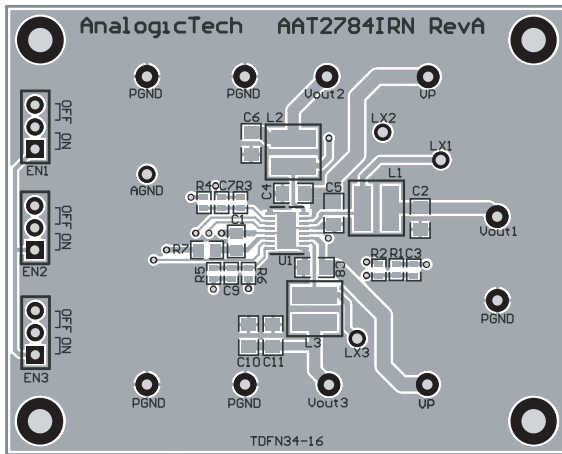

Figure 2: AAT2784 Evaluation Board Component Side Layout
The term $\frac{1}{2}$ appears in both the input voltage ripple and input capacitor RMS current equations and is a maximum when V_O is twice V_{IN} . This is why the input voltage ripple and the input capacitor RMS current ripple are a maximum at 50% duty cycle. The input capacitor provides a low impedance loop for the edges of pulsed current drawn by the AAT2784. Low ESR/ESL X7R and X5R ceramic capacitors are ideal for this function. To minimize stray inductance, the capacitor should be placed as closely as possible to the IC. This keeps the high frequency content of the input current localized, minimizing EMI and input voltage ripple. The proper placement of the input capacitor (C_1) can be seen in the evaluation board layout in the Layout section of this datasheet (see Figure 2). A laboratory test set-up typically consists of two long wires running from the bench power supply to the evaluation board input voltage pins. The inductance of these wires, along with the low-ESR ceramic input capacitor, can create a high Q network that may affect converter performance. This problem often becomes apparent in the form of excessive ringing in the output voltage during load transients. Errors in the loop phase and gain measurements can also result. Since the inductance of a short PCB trace feeding the input voltage is significantly lower than the power leads from the bench power supply, most applications do not exhibit this problem. In applications where the input power source lead inductance cannot be reduced to a level that does not
The suggested PCB layout for the AAT2784 is shown in Figures 2 and 3. The following guidelines should be used to help ensure a proper layout.
1. The power input capacitors (C5 and C8) should be connected as closely as possible to VP1_2, VP3 and PGND1,2,3 as shown in Figure 2. Due to the pin placement of VP1_2 and VP3 for all converters, proper decoupling is not possible with just one input capacitor.